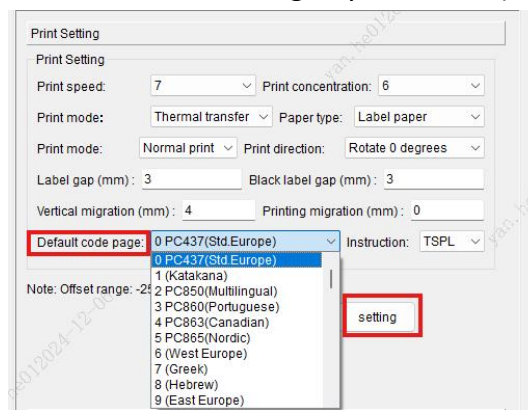

Fig.16
- ⑪ **Default Code Page:** Please select according to your needs (shown in Fig. 16).